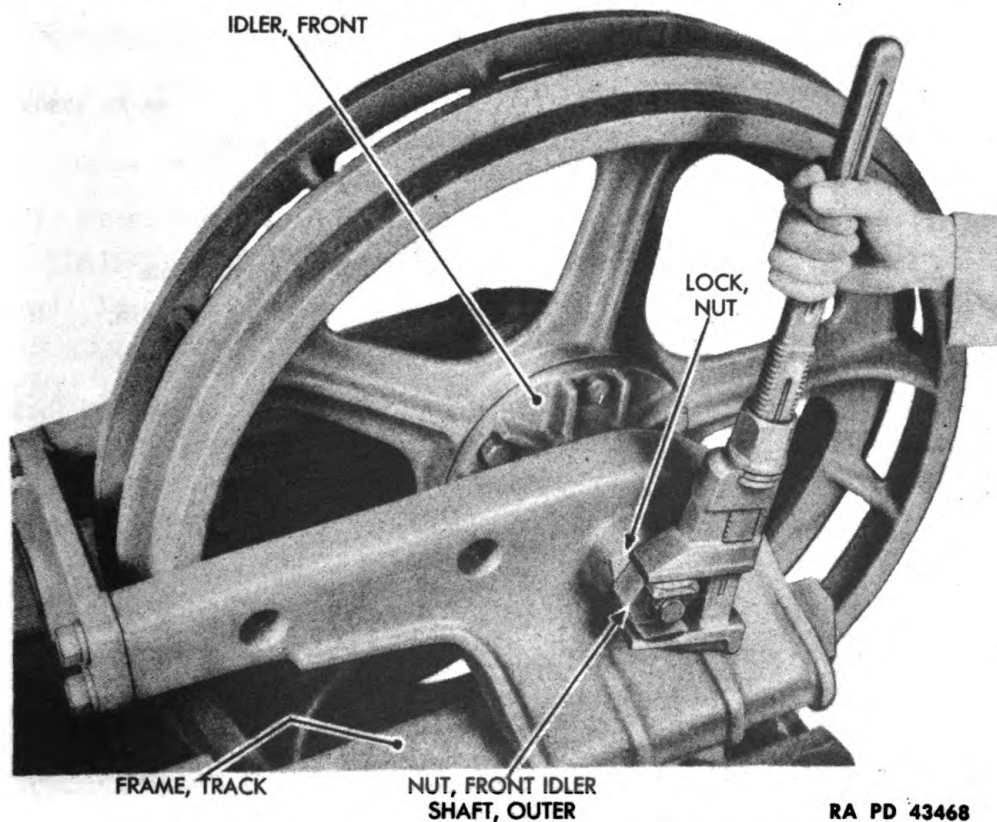

Figure 149 — Loosening Front Idler Shaft Nuts
- (2) REMOVE INNER AND OUTER FRONT IDLER SHAFT NUTS (fig. 149).